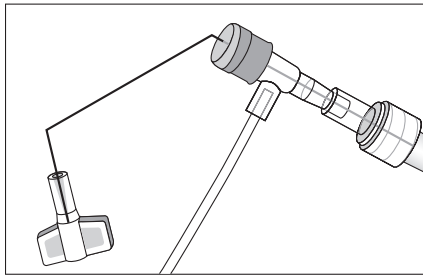

Figure 6
- Kink proximal end of placement wire at connector with side-port (refer to Figure 6). This minimizes the risk of placement wire extending beyond distal tip of catheter during insertion.